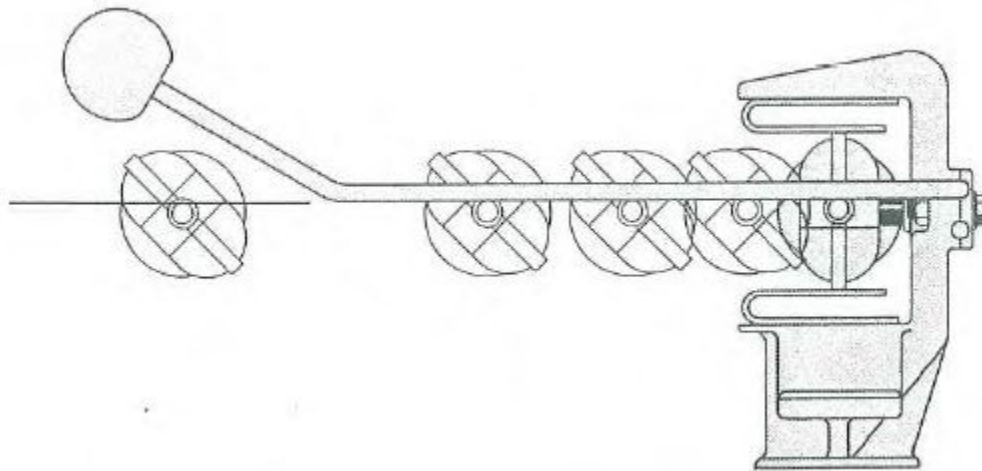

Figure 16: Arcing Horn Adjustment
- 3.1.3. Arcing horns should be touching when the switch is fully closed as shown in **Figure 16**. If necessary the jaw (stationary) arcing horn may be bent to achieve proper contact.